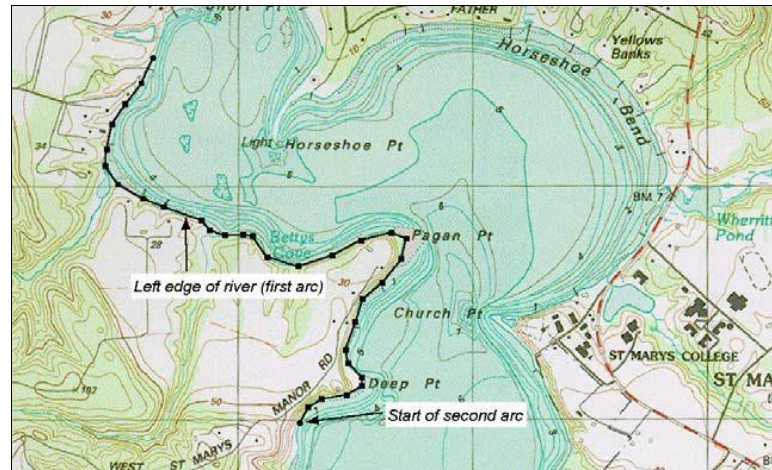

Figure 11 Creation of the first feature arc
3. Using the **Create Feature Arc** tool from the dynamic toolbox, click out the left riverbank, as shown in Figure 11 (if necessary, use the **Zoom** tool to get a closer view). (Note: the river flows from the top to the bottom, and the reference